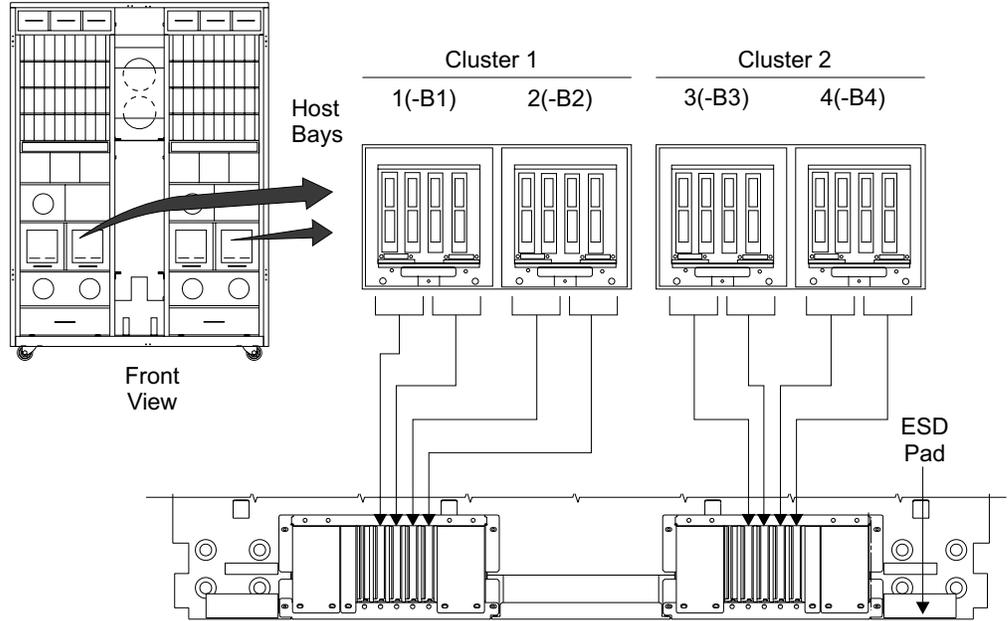

Figure 305. Cluster Bay SCSI Cable Tailgate Clamps (S008255n)
- SCSI cable tailgate information, see Figure 305 on page 311